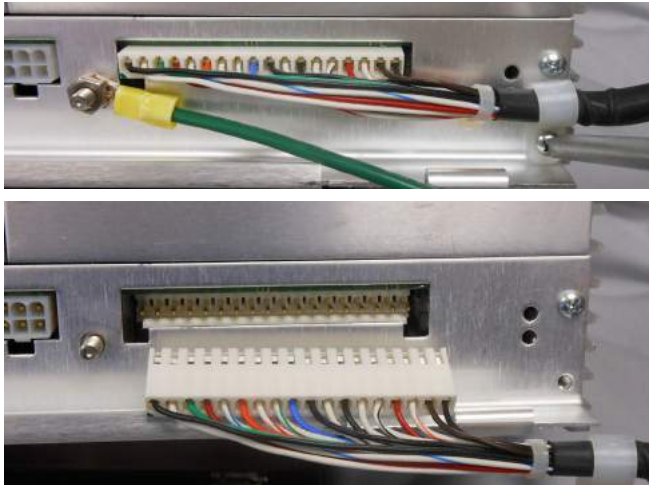

Figure 37. Removal of existing ground wire and wiring harness
- Remove the strain relief screw (retain the screw and strain relief device) and disconnect the white connector from the side of the CL-7 control panel. See **Figure 37**.
- Using a 3/8-inch wrench, remove the green ground wire from the side of the panel; retain the wire, washer, and nut. See **Figure 37**.